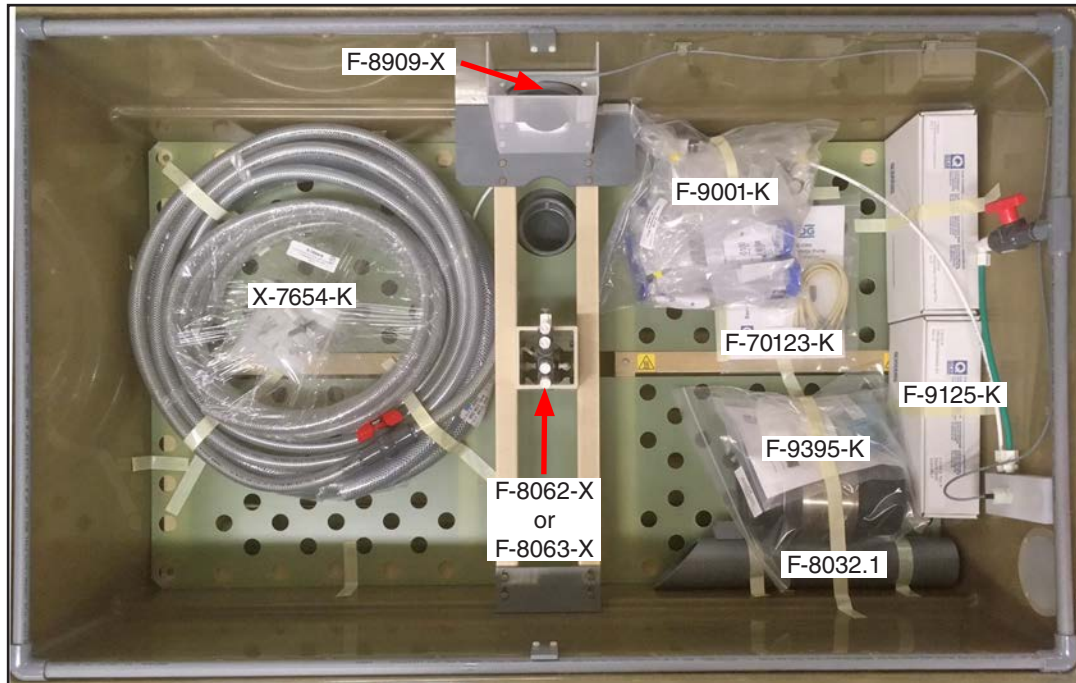

Figure 5.5: Q-FOG test chamber lid open to show accessories. **NOTE:** Optional wall wash assembly shown.
- Open the Q-FOG lid to remove the accessories (Figure 5.5). Remove all tape and packaging material from the chamber.